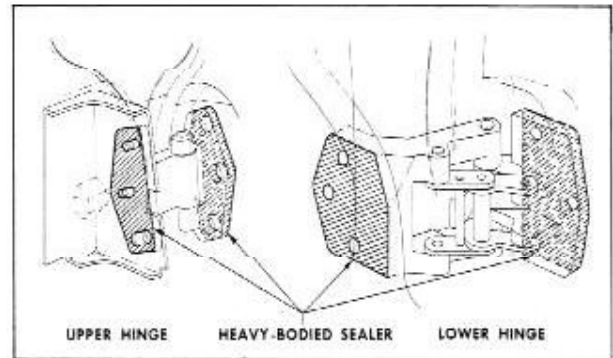

Fig. 17-44 Rear Door Hinge Anti-Squeak Sealing
2. Apply a coat of heavy-bodied sealer to attaching surfaces of hinge straps or corresponding surfaces of door or body. (Fig. 17-44)